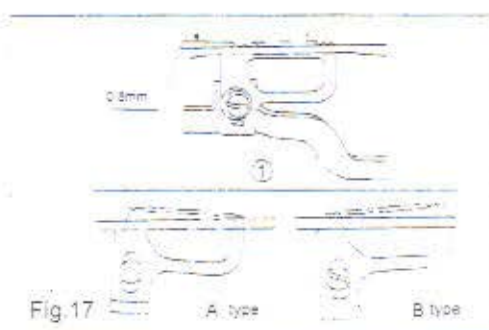
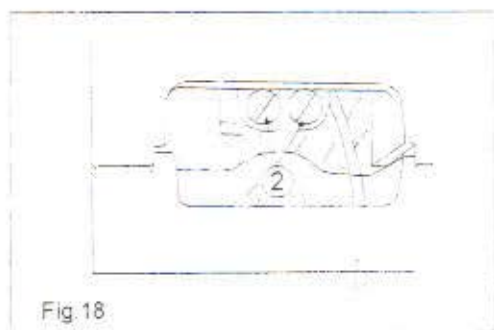

Fig.17
Fig.18
14. Adjustment of the height of the feed dog (Figs 17 and 18)
Loosen the set screw ②, as shown in Fig.18, the angle of the feed dog can be adjusted to the specified one of standard version, A version, and B version. The Max.height of 0.8mm of the projection from dog is adjustable by the adjusting of screw ① as shown in Fig.17.